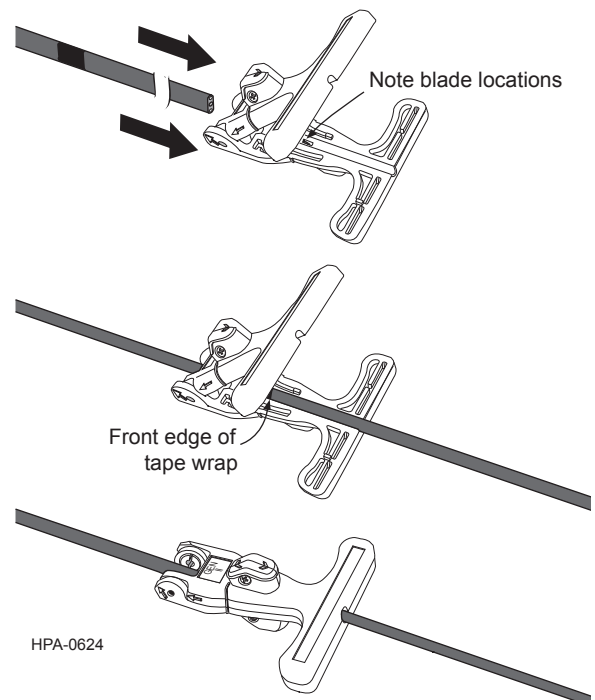

Figure 24
**Step 1:** Open the tool and insert the cable so that the transition point tape wrap is just behind the blades. Close the tool (Figure 24).